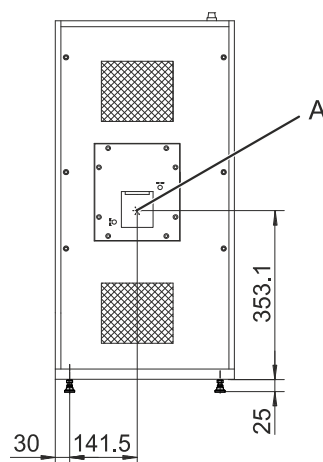

Figure 8: Beam exit position
The exact position of the beam exit aperture is shown in Figure 8 (A).